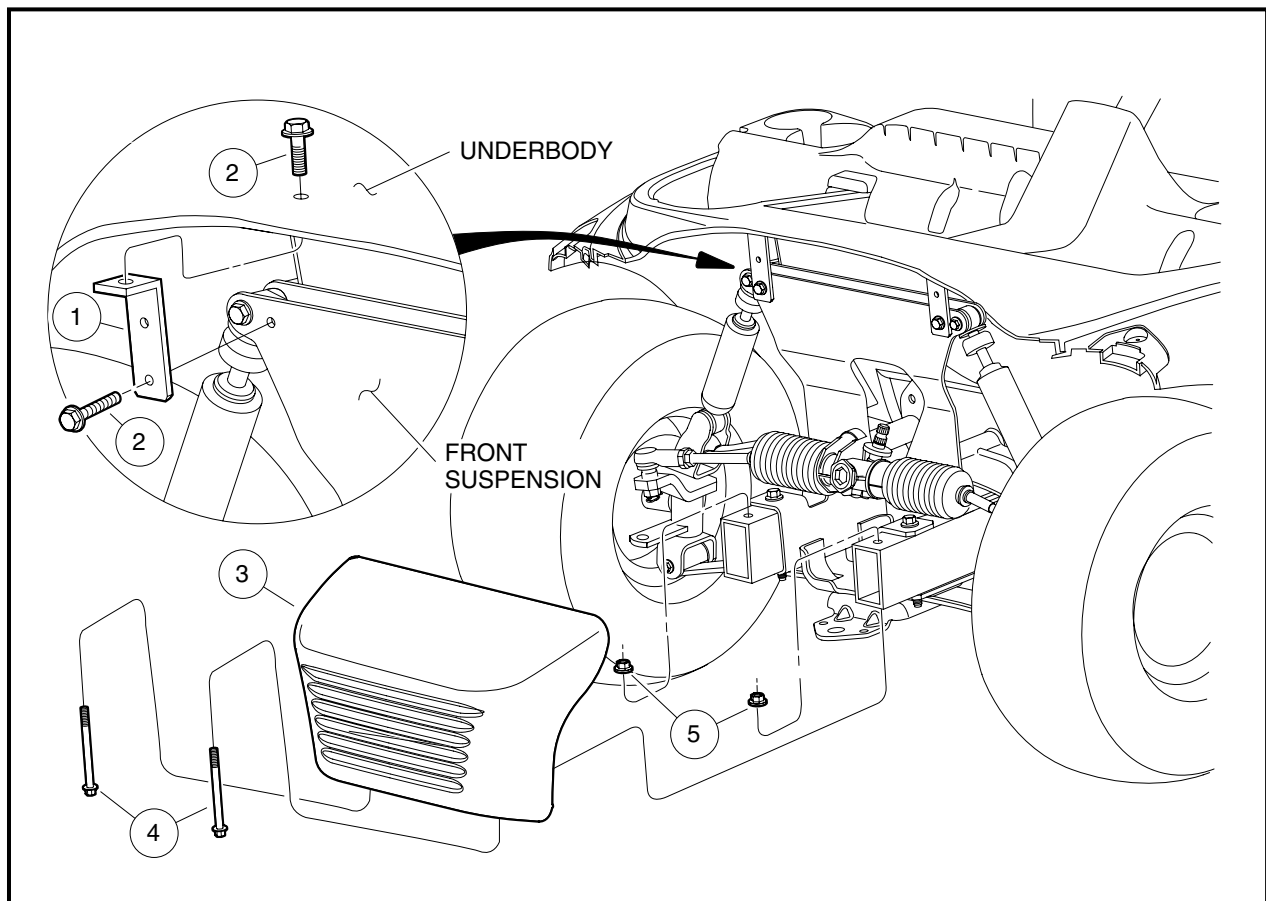

Figure 4-2 Bracket and Front Bumper
The underbody bracket (1) connects the front suspension to the front underbody (**Figure 4-2, Page 4-5**). Each bracket is secured in place by two taptite screws (2) tightened to 13 ft-lb (17.6 N·m).